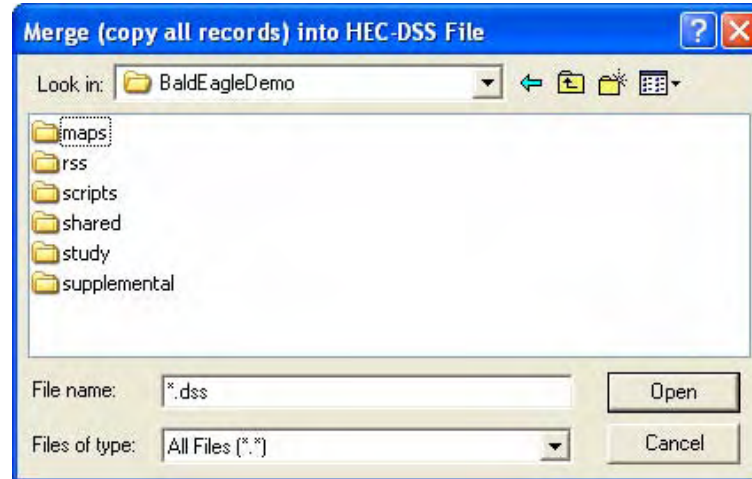

Figure E.19 HEC-DSSVue Merge (copy all records) into HEC-DSS File Dialog Box
1. Choose **Merge Files** from the **Utilities** menu. The **Merge (copy all records) into HEC-DSS File** dialog box (Figure E.19) will open.